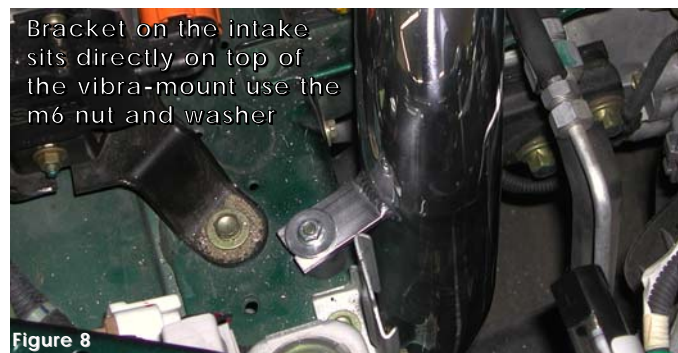

Figure 1
8. Align the entire cold air intake for best fit. Once proper clearance has been made through-out the length of the intake tighten all nuts, bolts and clamps. See fig. 1